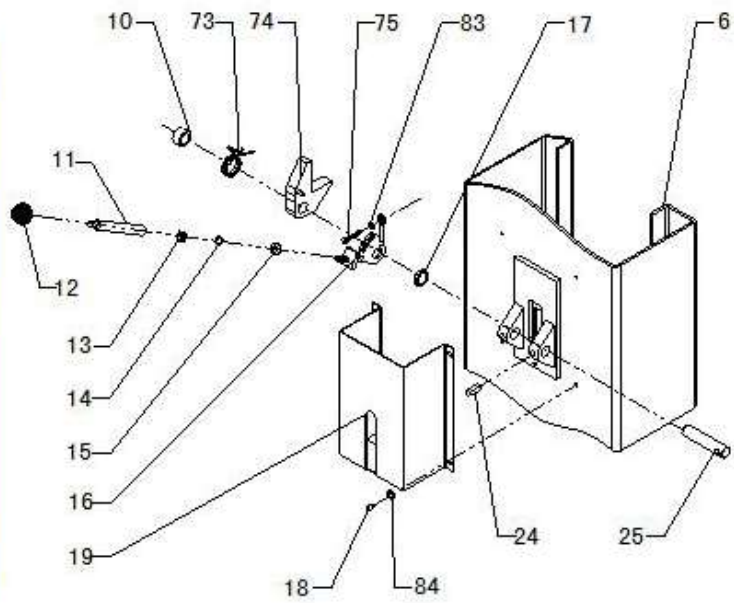
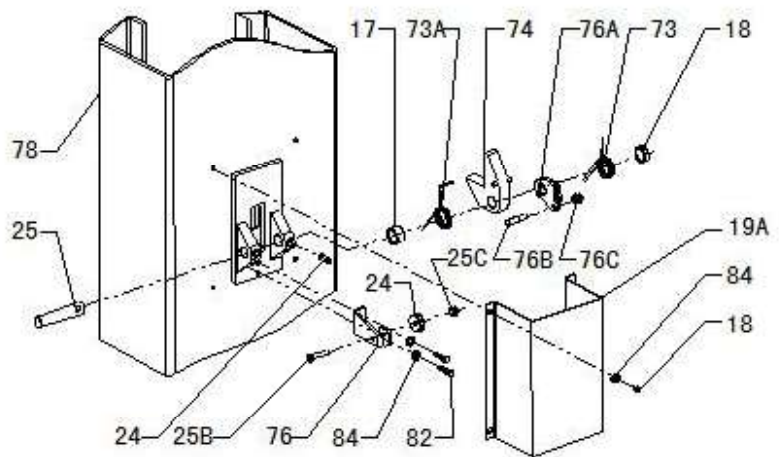

Fig. 20 Power-side Safety Device
Fig. 21 Offside Safety Device
I. Install safety device (See Fig. 20 & Fig. 21).